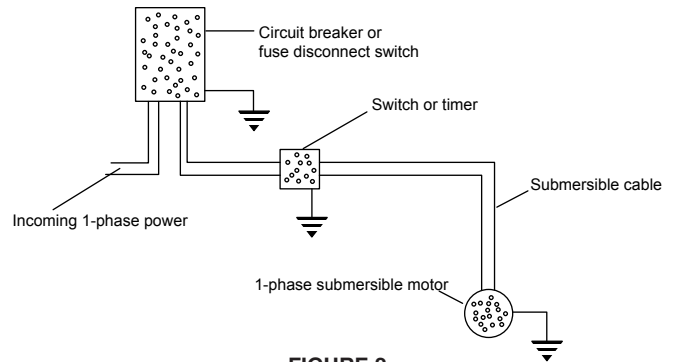

FIGURE 2
- 3. Make sure power supply is turned off and circuit breaker or disconnect switch is open. Make electrical connections appropriate to your motor as shown in Figure 2, 3 or 4.
7. A two-wire pump does not require a motor control box; all electrical components are built inside the motor. Figure 2 shows a typical wiring diagram for a two-wire installation.
3. Install a pressure switch between the check valve and the pressure tank. Refer to Figure 2, 3, or 4 for proper wiring connections of pressure switch.